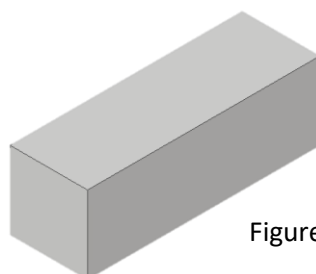

Figure 4 - Square Peg
- Save as **SQUARE PEG** (.ipt). See Figure 4.